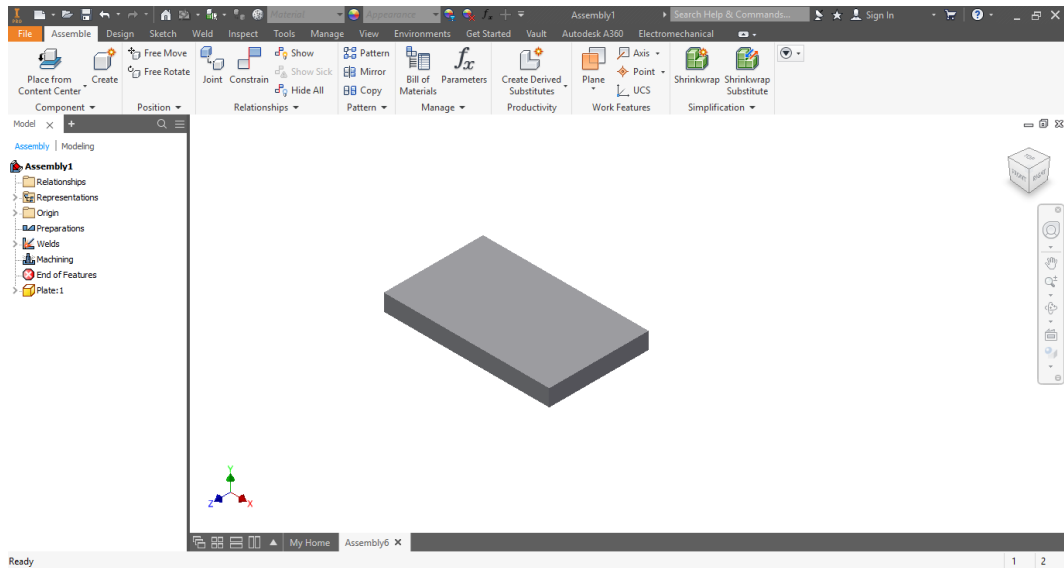

Figure 16-22 Weldment after creating the plate
- Next, choose the **OK** button from the **Create In-Place Component** dialog box and then create a plate of dimensions 50 x 30 x 5 mm. Save the file and then choose the **Return** tool from the **Return** panel to return to the Assembly environment. The Weldment assembly after creating the plate is shown in Figure 16-22.